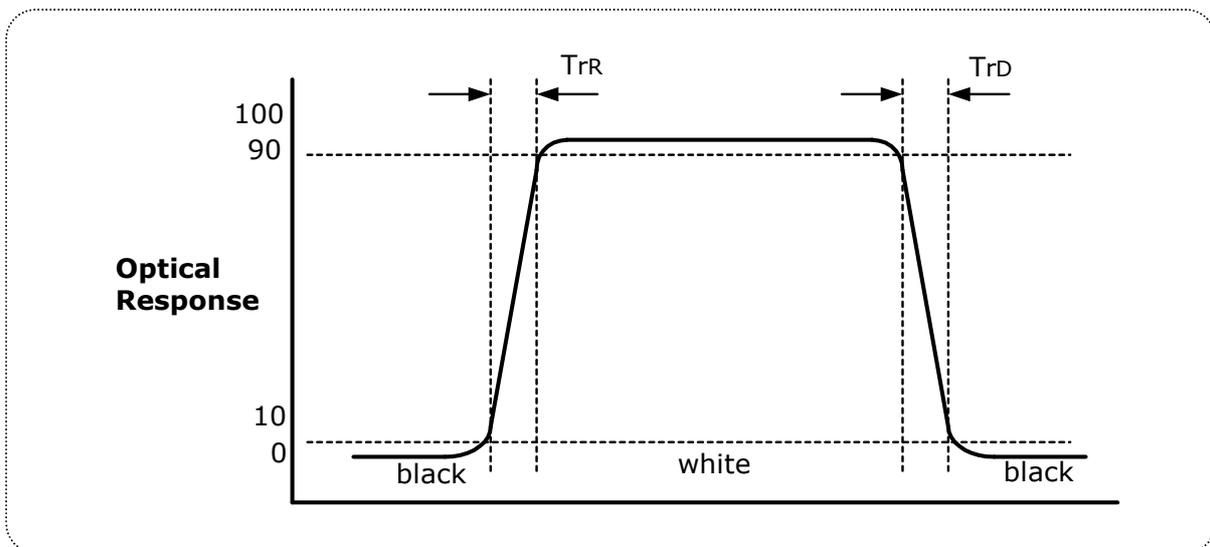

FIG. 6. Response Time
6. Color shift is the angle at which the color difference is lower than 0.04. For more information see FIG 6.